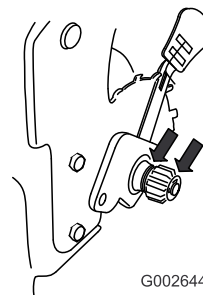

Figure 44
2. Apply a lubricating oil to the inner and outer sides of the gear as shown in Figure 44.